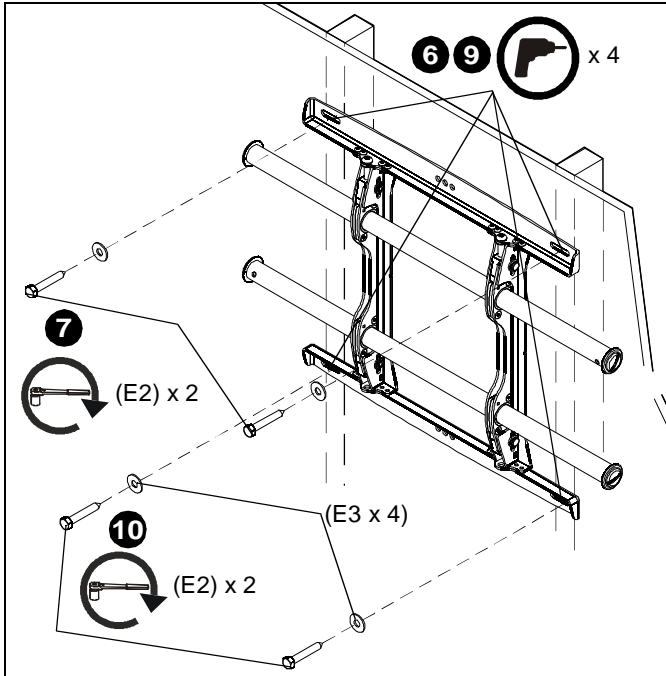

Figure 3
7. Use two 5/16 x 2-1/2" lag bolts (E2) and two 5/16" flat washers (E3) to attach top of mount to wall. (See Figure 3)
8. Mark the attachment points for the lower mounting slots, making sure the attachment points are located on the studs. (See Figure 3)
9. Drill 7/32" (5.5mm) pilot holes at markings for lower mounting holes. (See Figure 3)
10. Use two 5/16 x 2-1/2" lag bolts (E2) and two 5/16" flat washers (E3) to attach the mount to the wall through the lower mounting holes. (See Figure 3)